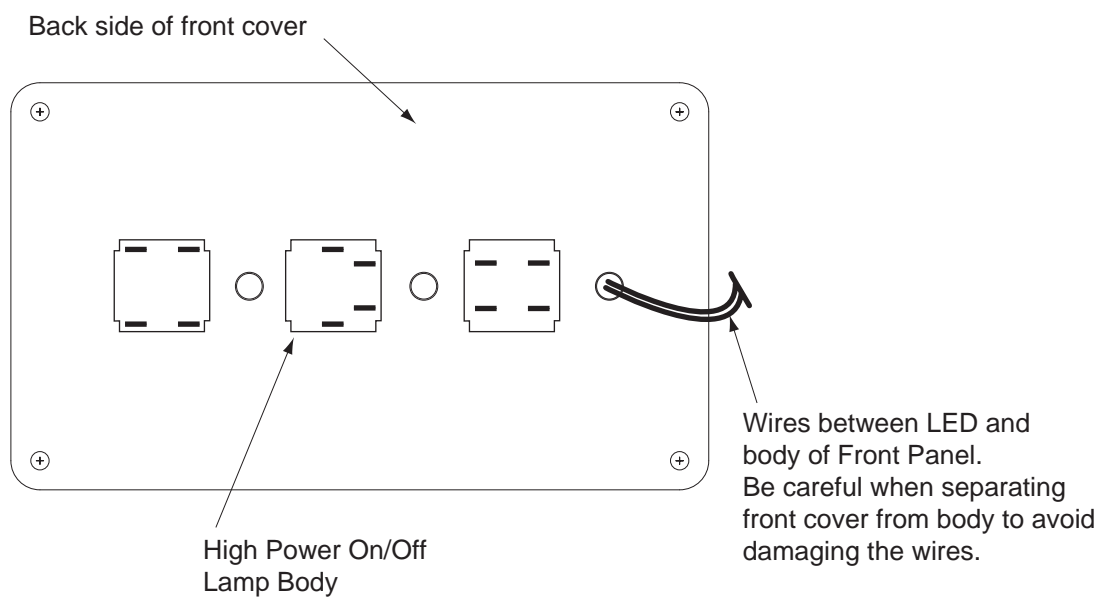

Figure 5-1. Lamp Body Contact Alignment
8. Replace the lamp body by pushing it straight into the lamp housing receptacle. Make sure the contacts on the lamp body are properly oriented. See Figure 5-1 on page 86.